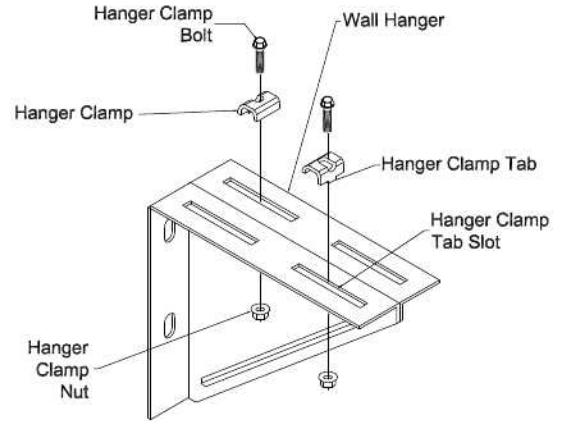

Figure 5. Wall Hanger
7.2.1 Center busway on the wall hanger at desired location. Install a hanger clamp on each side of the busway with the hardware provided. Ensure that the hanger clamp tabs are positioned in the hanger clamp tab slots (Figures 5, 6 and 7).